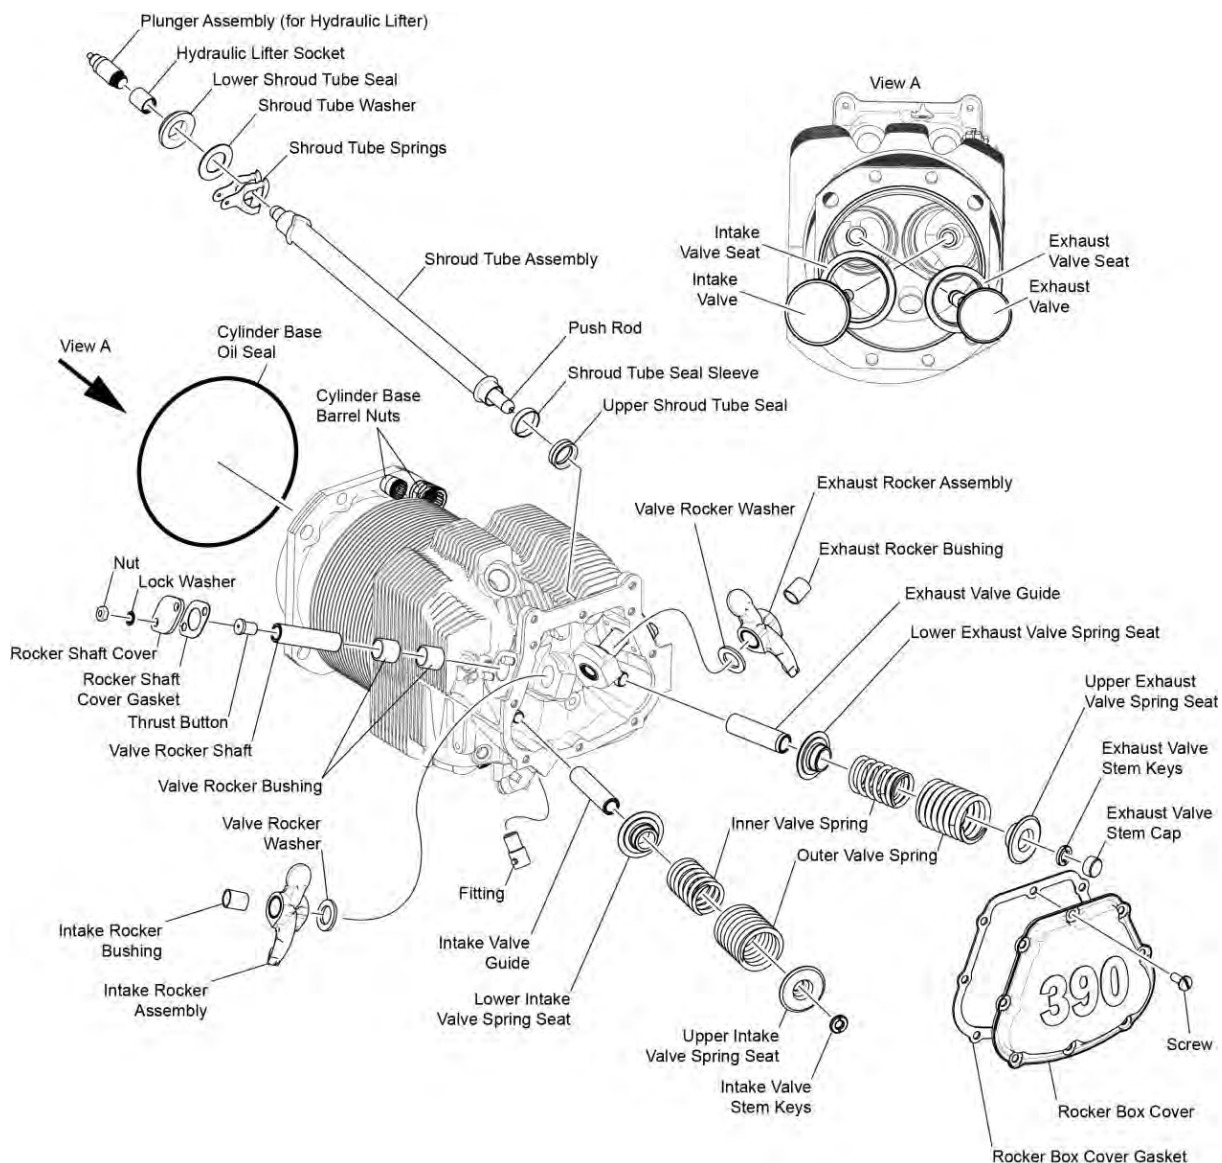

Figure 15
- E. Remove the screws from the rocker box cover (Figure 15).
NOTICE: There is a different rocker assembly (Figure 15) for the intake and exhaust side of the engine cylinder. Identify whether the rocker assembly is from the intake or exhaust side for reference on cylinder assembly.
- J. Push the valve rocker shafts (Figure 15) outward and remove the rocker assemblies and bushings.
- T. Remove the valve rocker shaft (Figure 15) from the engine cylinder.
Look for wear or broken parts in the area of the valve, springs, and spring seats. Corrective Action: Replace the cylinder or send the engine cylinder to an authorized vendor to replace all loose, scored, pitted, defective, or damaged valve seats (Figure 15).	Cylinder 1